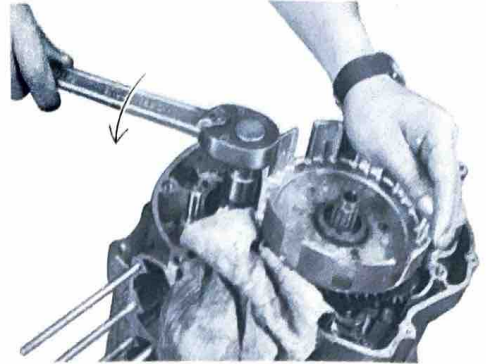

Fig. 4-10-1
- Feed a rolled-up rag between the teeth of the primary drive gear and the primary driven gear to lock them. (Fig. 4-10-1)